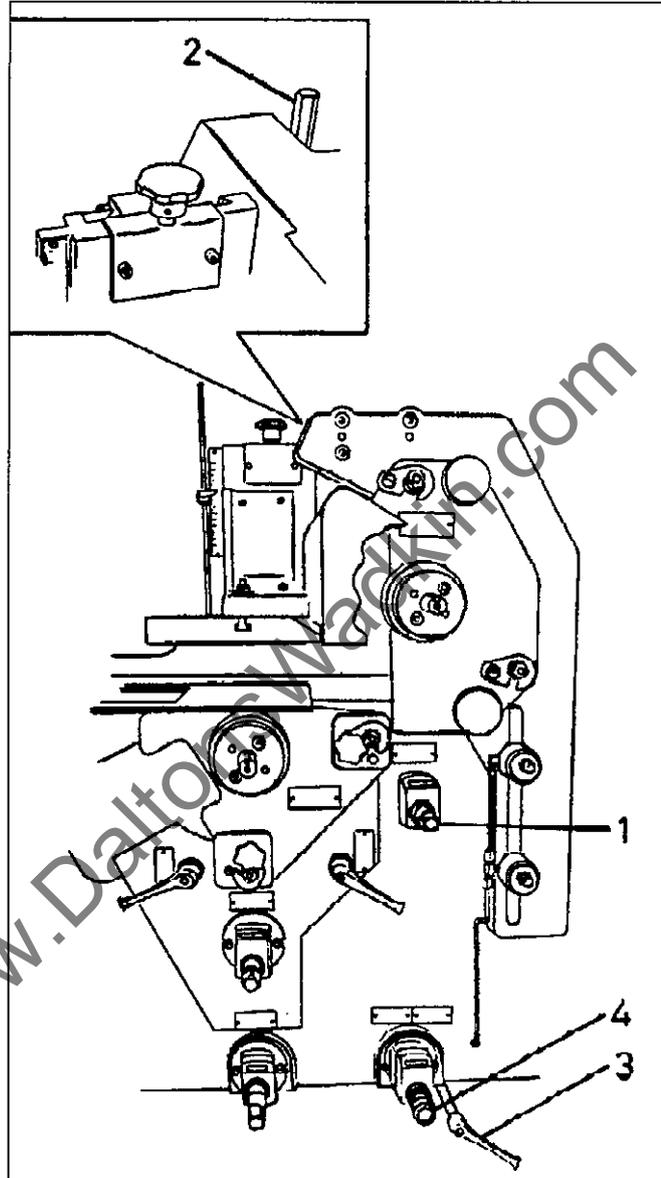

Figure 8.8.1
8.8 XE E-Unit (Figures 8.8.1 to 8.8.5)
8.8.1 Setting Top Head (Figure 8.8.1)